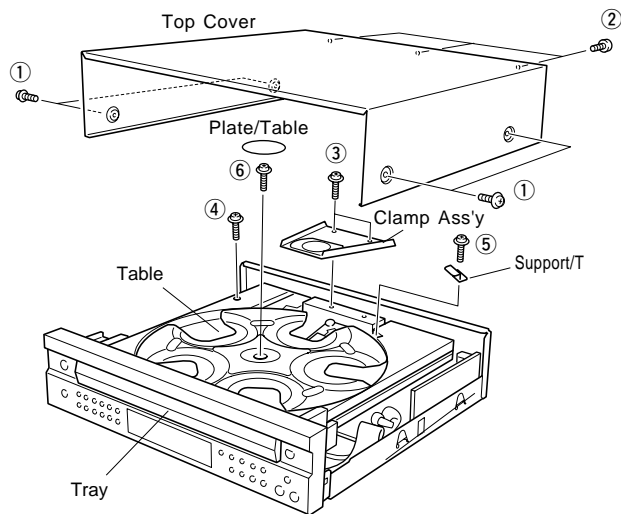

Fig. 1
- Remove 4 screws ( ① ) and also 3 screws ( ② ) as shown in Fig. 1.
- Remove 2 screws ( ③ ) as shown in Fig. 1.
- Remove 1 screw ( ④ ) as shown in Fig. 1.
- Remove 1 screw ( ⑤ ) and then remove the Support/T as shown in Fig. 1.
- Remove the Plate/Table as shown in Fig. 1.
- Remove 1 screw ( ⑥ ) and then take off the Table as shown in Fig. 1.